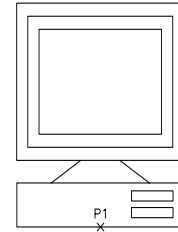

Figure 16-6 Drawing for Example 1
1. Draw the sketch of a computer and convert it into a block, as shown in Figure 16-6. Assume the dimensions, or measure the dimensions of the computer you are using for AutoCAD.